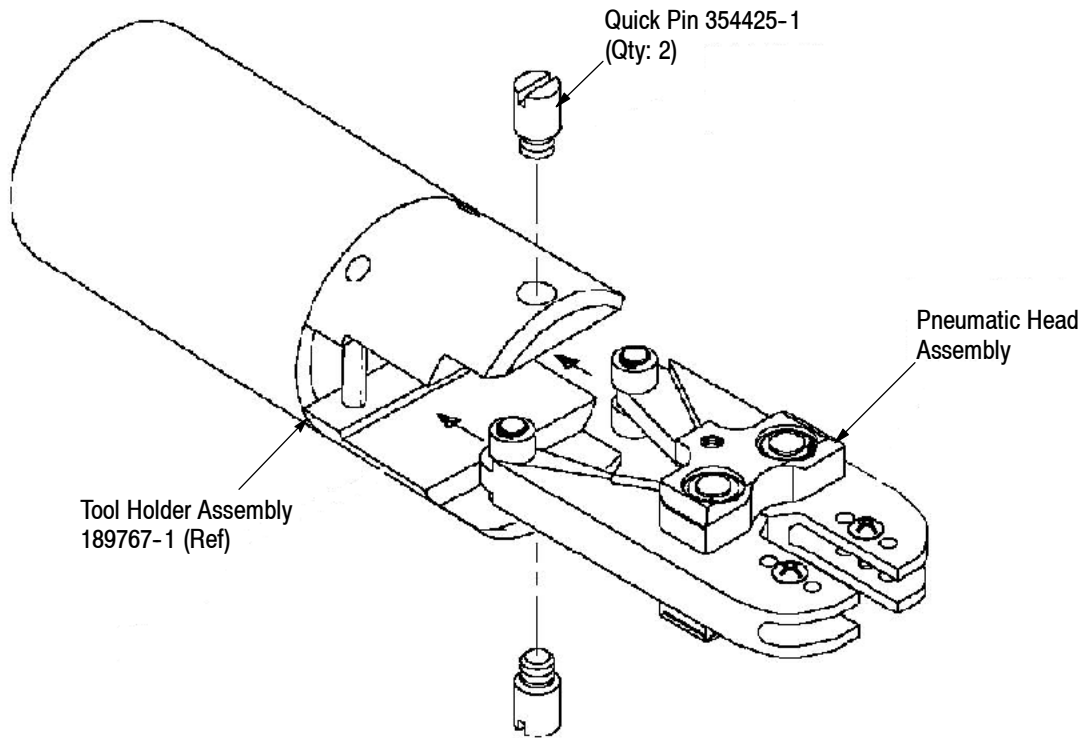

Figure 1
Pneumatic Head Assembly 679304-1 (shown in Figure 1) is designed to accept interchangeable die assemblies used in PRO-CRIMPER\* hand tools for crimping various types of connectors. The head assembly is used in the 626 Pneumatic Tooling Assemblies 189721-1 and 189722-1.
1. Insert the head assembly into the tool holder assembly of the pneumatic tooling assembly as shown in Figure 1.
2. After the head assembly is properly aligned, insert and tighten the quick pins provided with the pneumatic tooling assembly. Refer to Figure 1.